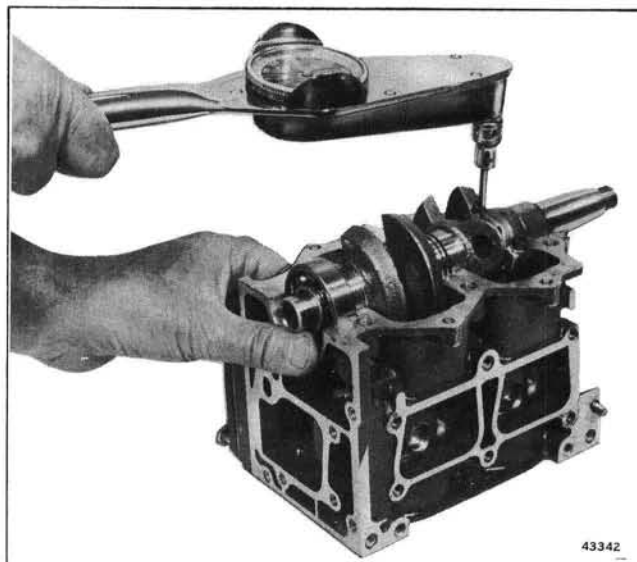

Figure 5-40. Tightening to Specified Torque
f. Tighten connecting rod screws to torque specified in Section 2, using a torque wrench. Rods and bearings should float on crankpins. See Figure 5-40.